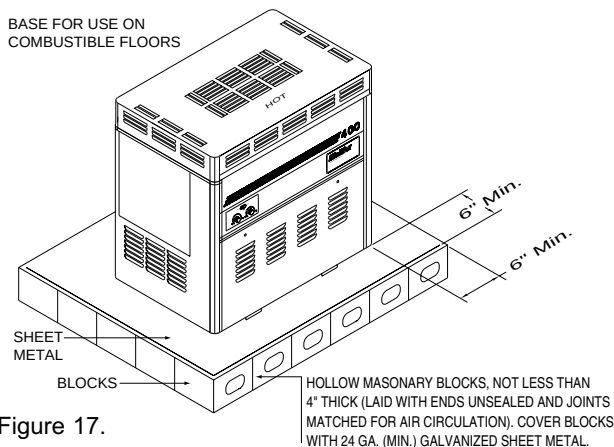

Figure 17.
- Construct a non-combustible base from masonry blocks as illustrated, see Figure 17.